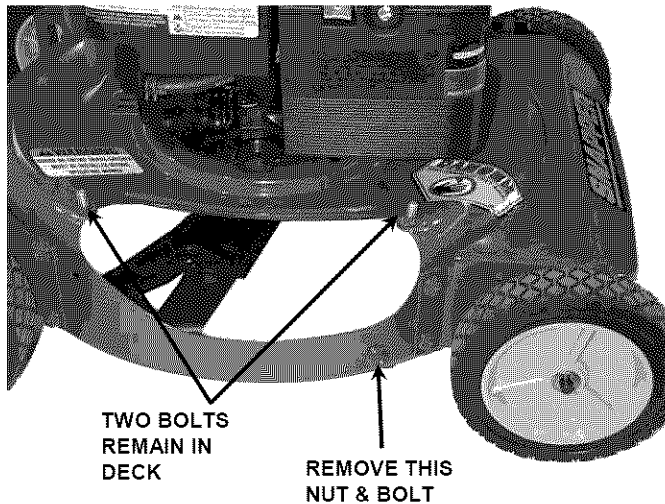

FIGURE 2.9
1. Remove the recycling cover. Loosen and remove the two knobs securing the cover to the deck and remove the cover from the two bolts. The two bolts remain in the deck. See Figure 2.9.
2. Remove nut and bolt located below the front of the discharge opening. See Figure 2.9.